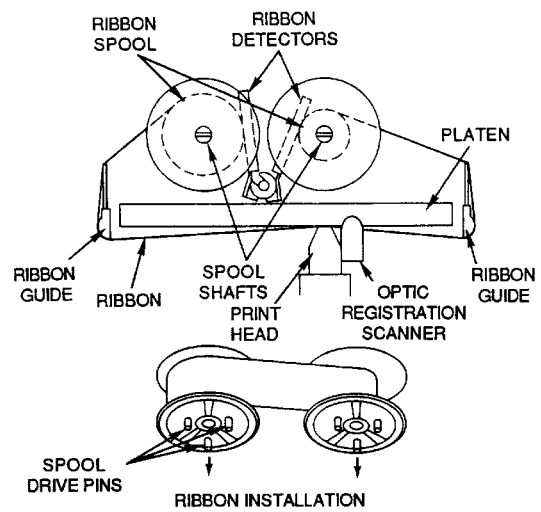

Figure 7. . Bradymarker XC Plus Printer
(2) Install R2100 ribbon (Figure 7).